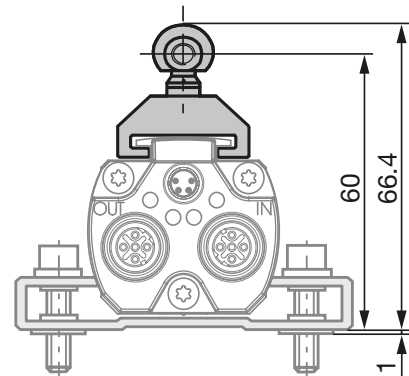
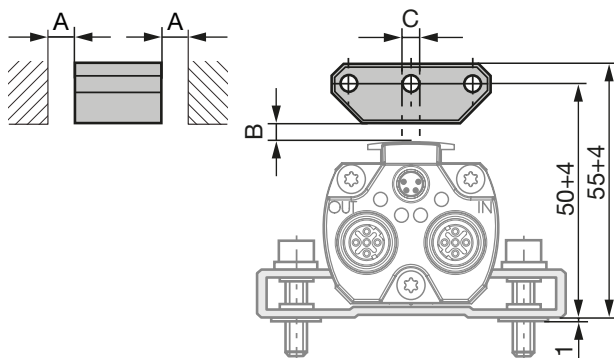

Fig. 4-2: Dimensions and distances with BTL5-F-2814-1S magnet
Fig. 4-5: Dimensions and distances with BTL5-P-3800-2 magnet
i The micropulse transducer in profile housing is suitable both for floating, i.e. non-contacting magnets (see Figures 4-5 to 4-9) and for captive magnets (see Figures 4-2 to 4-4).
- Ensure that the distance A between parts made of magnetizable material and the magnet is at least 10 mm (see Figures 4-5 to 4-9).
- Maintain the following values for distance B between the magnet and transducer and for center offset C (see Figures 4-5 to 4-9):